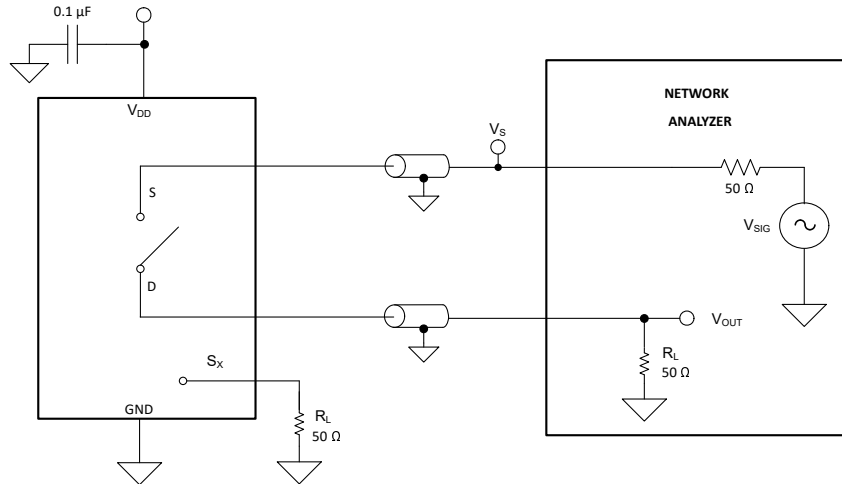

图 8-5. Off Isolation Measurement Setup
Off isolation is defined as the ratio of the signal at the drain pin (D) of the device when a signal is applied to the source pin (Sx) of an off-channel. 图 8-5 shows the setup used to measure, and the equation to compute off isolation.